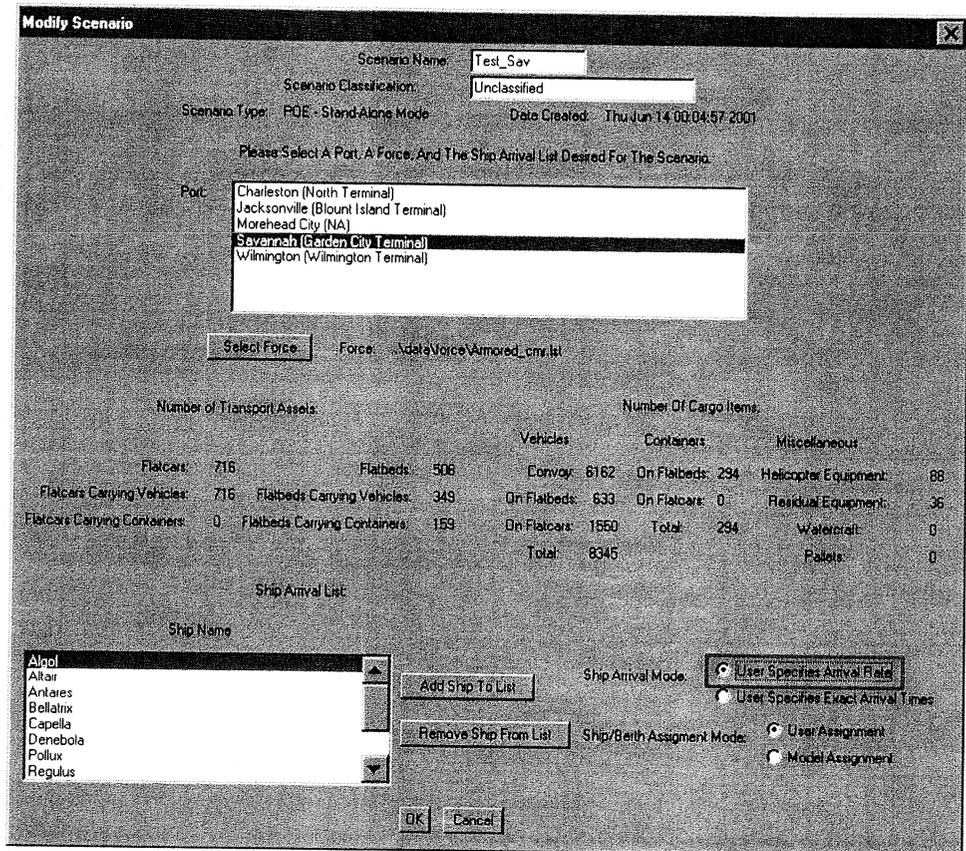

Figure 20: Stochastic Ship Arrival
1. When creating a new scenario or modifying an existing scenario, make the following series of choices on the PORTSIM menus and windows (Figure 20):